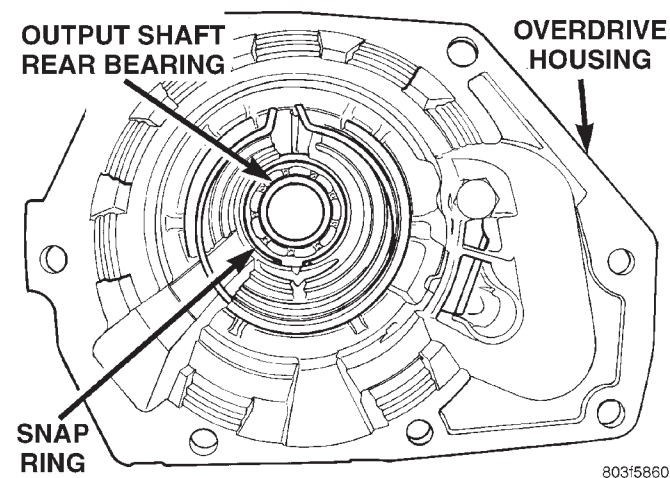

Fig. 34 Output Shaft Rear Bearing
- (1) Remove overdrive unit from the vehicle.
- (2) Remove overdrive geartrain from housing.
- (3) Remove snap ring holding output shaft rear bearing into overdrive housing (Fig. 34).
- (4) Using a suitable driver inserted through the rear end of housing, drive bearing from housing.
- (1) Place replacement bearing in position in housing.
- (2) Using a suitable driver, drive bearing into housing until the snap ring groove is visible.
- (3) Install snap ring to hold bearing into housing (Fig. 34).
- (4) Install overdrive geartrain into housing.
- (5) Install overdrive unit in vehicle.